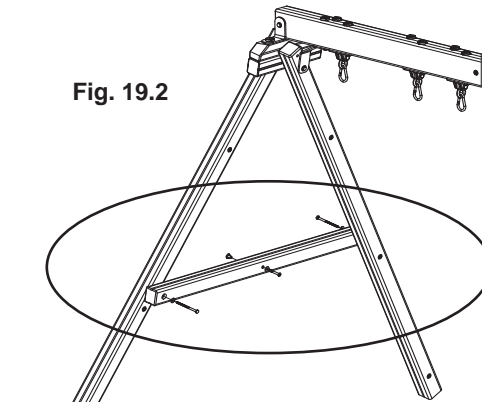
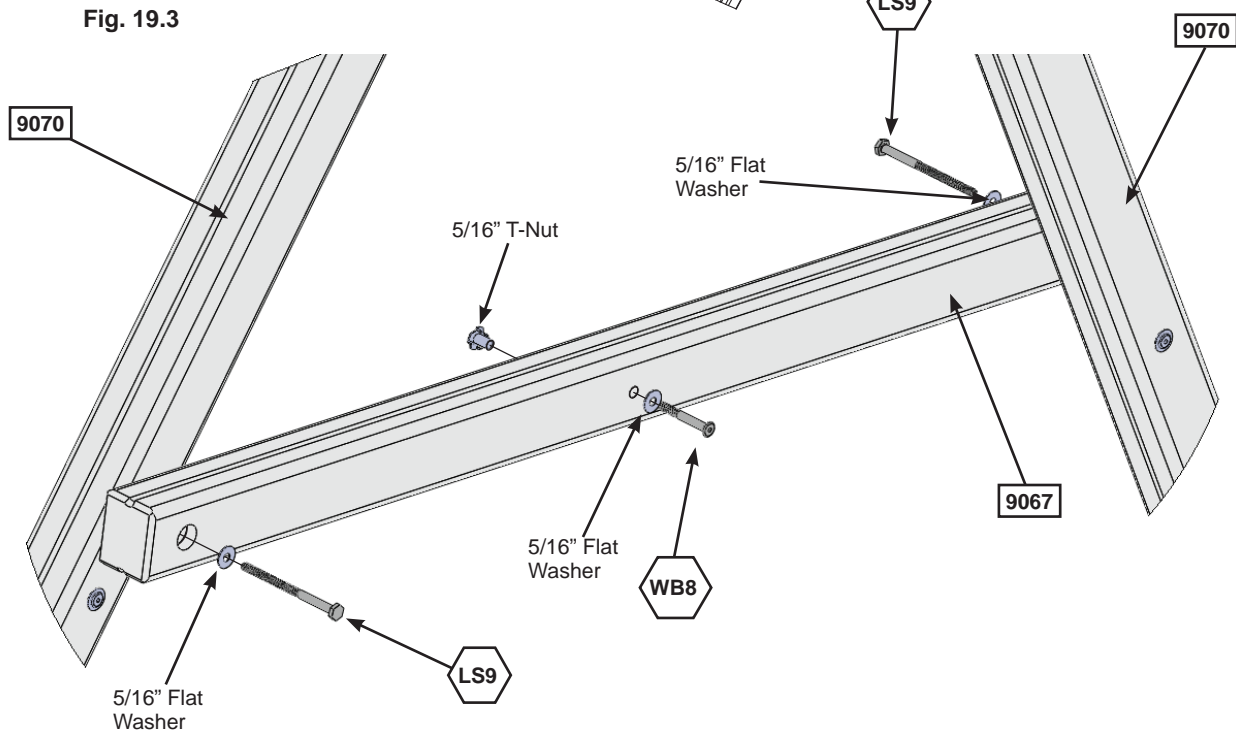

Fig. 19.2
Fig. 19.3
B: Place (9067) Support Cross between (9070) SW Posts at the previously determined spot and fasten with 1 (LS9) 5/16 x 4-3/4" Lag Screw (with flat washer) per side. (fig. 19.2 and 19.3) **Notice one side is fastened on the outside and one on the inside. It is important that each side is positioned exactly the same as the diagram. (fig. 19.3) Tighten the lag screw when you are sure (191) Support Cross is level.**
C: Attach 1 (WB8) 5/16 x 2-3/8" Wafer Bolt (with flat washer and t-nut) to (9067) Support Cross through the middle hole. (fig. 19.2 and 19.3) **IMPORTANT! MAKE SURE THE BOLT IS ATTACHED TO MINIMIZE CHECKING OF WOOD.**